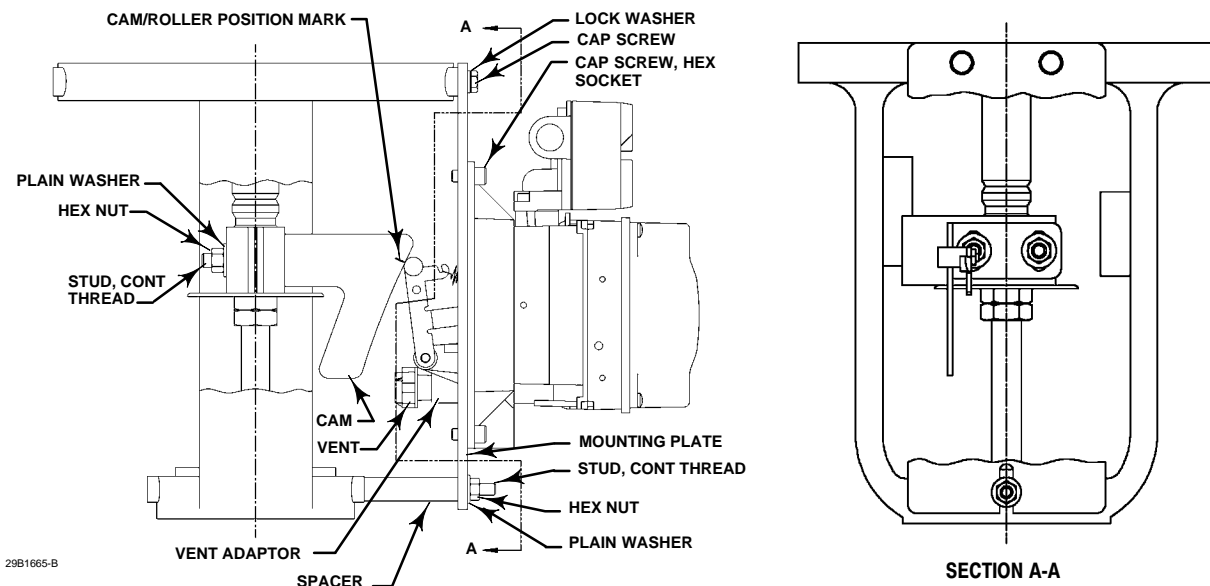

Figure 2-4. FIELDVUE DVC6020f Digital Valve Controller Mounted on Long-Stroke Sliding-Stem Actuator.
The DVC6020f digital valve controller uses a cam (designed for linear response) and roller as the feedback mechanism. Figure 2-4 shows an example of mounting on sliding-stem actuators with travels from 4 inches to 24 inches. Some long-stroke applications will require an actuator with a tapped lower yoke boss. Figures 2-5 and 2-6 show the DVC6020f mounted on rotary actuators.
Refer to figures 2-4, 2-5, and 2-6 for parts locations. Refer to the following guidelines when mounting on sliding-stem actuators with 4 to 24 inches of travel or on rotary actuators:
8. For long-stroke sliding-stem actuators, after the mounting is complete, check to be sure the roller aligns with the position mark on the cam (see figure 2-4). If necessary, reposition the cam to attain alignment.